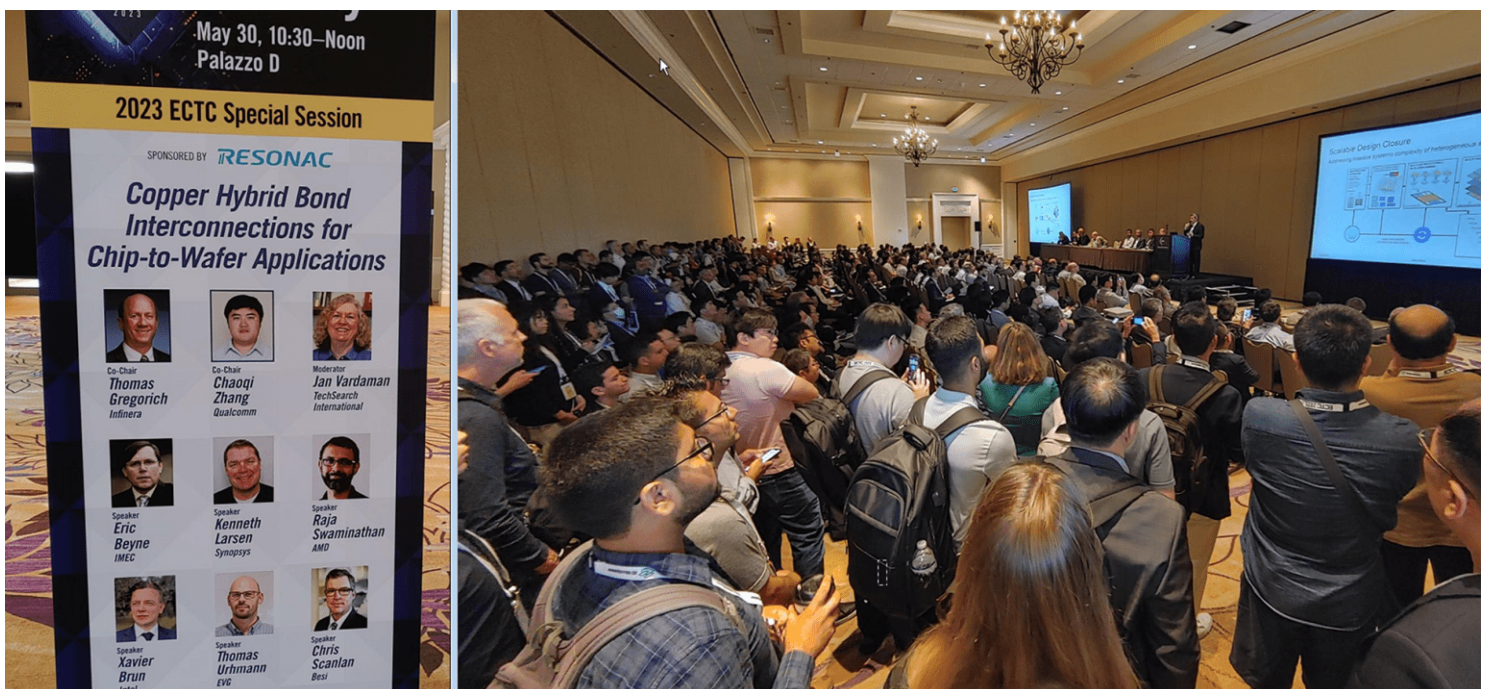

Figure 1. Sessions on hybrid bonding were plentiful – and popular.
**MORE THAN 50** presentations on hybrid bonding filled rooms to capacity at the IEEE Electronics Components and Technology Conference (ECTC) in Orlando, as did the Tuesday morning panel session. That panel discussion (**FIGURE 1**), on “Copper Hybrid Bond Interconnections for Chip-to-Wafer Applications,” organized by Infinera and Qualcomm and moderated by TechSearch International, included perspectives from design and EDA (Synopsys) and research institute IMEC, users of hybrid bonding (AMD with production at TSMC and Intel with its internal development program), equipment makers Besi and EVG, and yield and reliability specialist PDF Solutions.